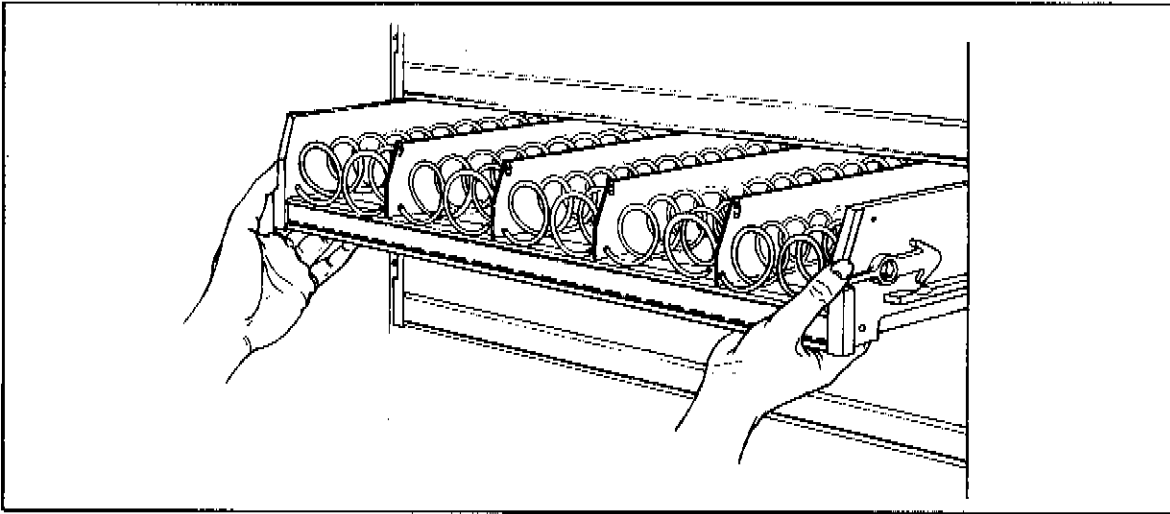

Figure S-16a
- * Lift the Tray until it is parallel to the floor. See Figure S-16a.